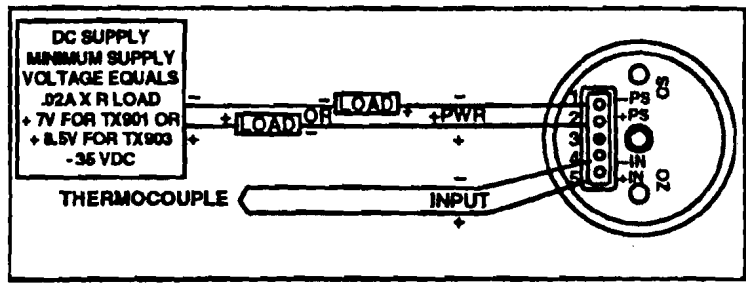

Figure 3-6 Wiring Diagram for the TX901 or TX903
3.2 Wiring the TX901 or TX903 (Refer to Figure 3-6)
Check the wiring using Figure 3-6 as a guide. If the temperature of the thermocouple increases while the current magnitude decreases, the problem could be caused by reversed polarity of the: